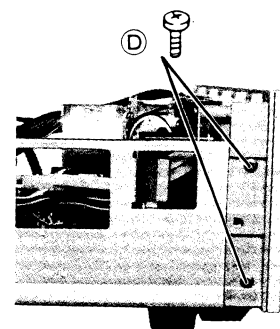

Figure 11
2. Remove two screws (D) ( $3\phi \times 6\text{mm}$ ) from both sides of the unit. (See Figure 11)